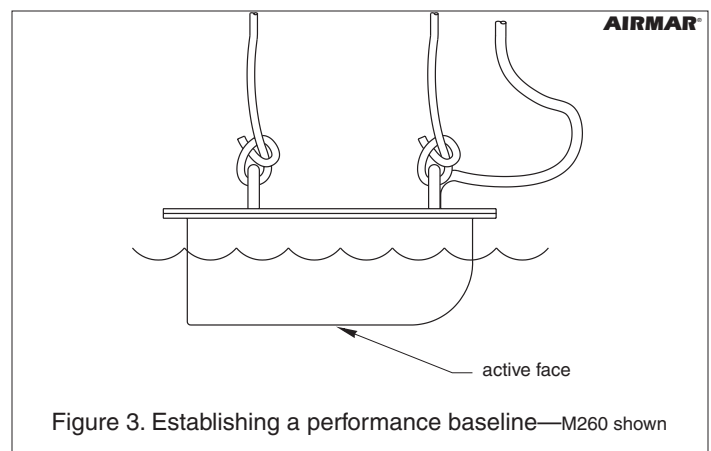

Figure 3. Establishing a performance baseline—M260 shown
3. Tie a rope securely around the handles of the transducer (see Figure 3). Lower it over the side of the boat until the active face is submerged in the water.